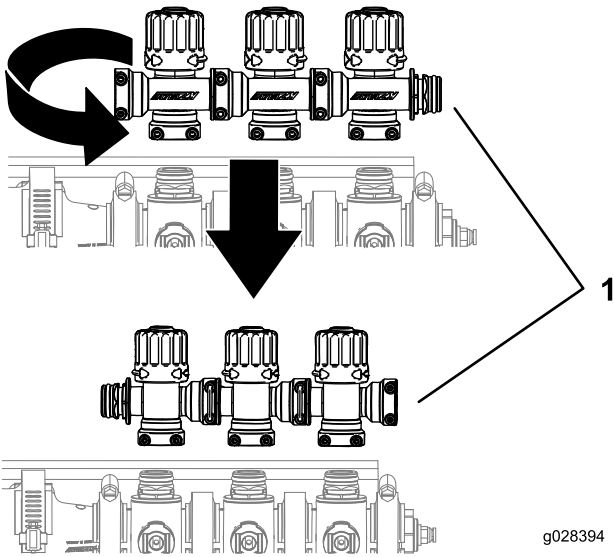

Figure 15
5. Rotate the boom bypass valve cluster 180° as shown in Figure 15.